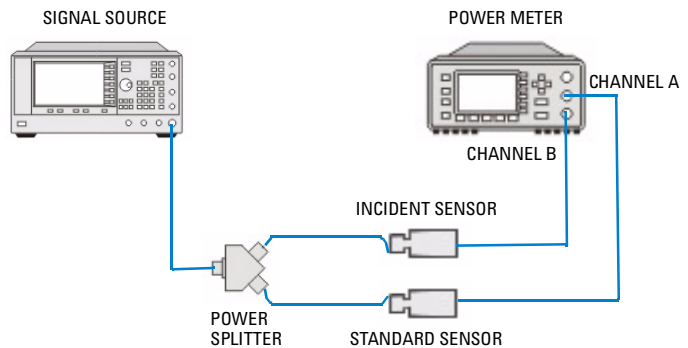

Figure 3-3 Frequency response test setup
- 3 Set up the instruments as shown in Figure 3-3 on page 18.